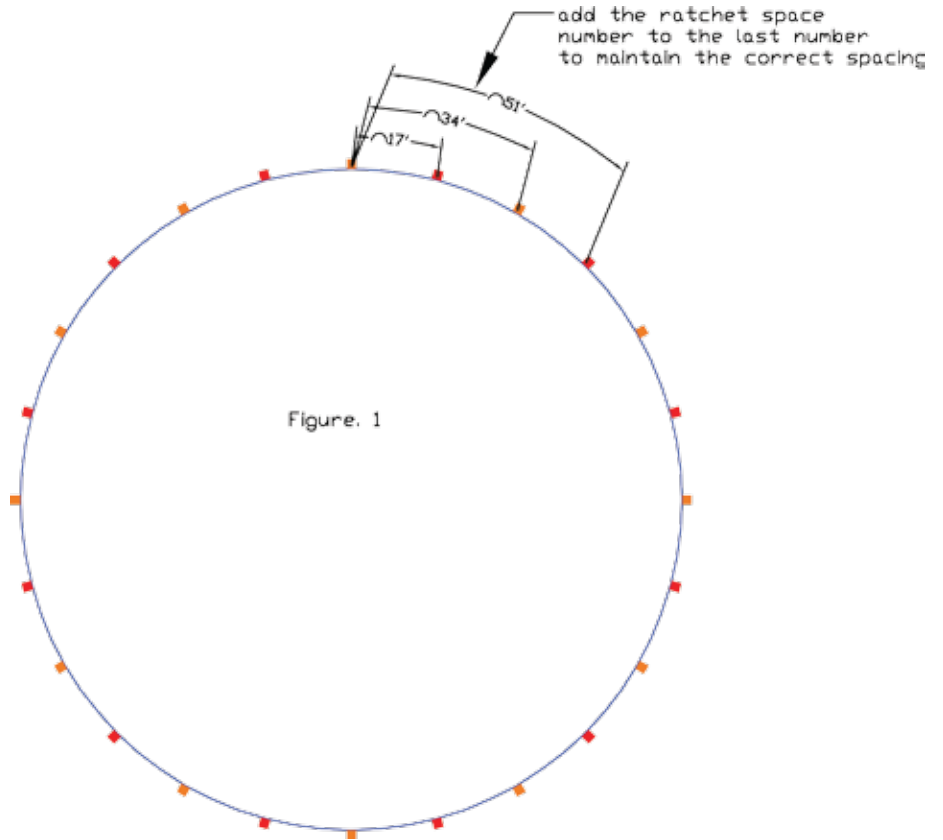

Figure. 1
- 27 + 27 = 54 + 27 = 81 + 27 = 108 and so on. Fasten the ratchets to the wall as close as they can be to the measurements that were calculated earlier (figure 1).